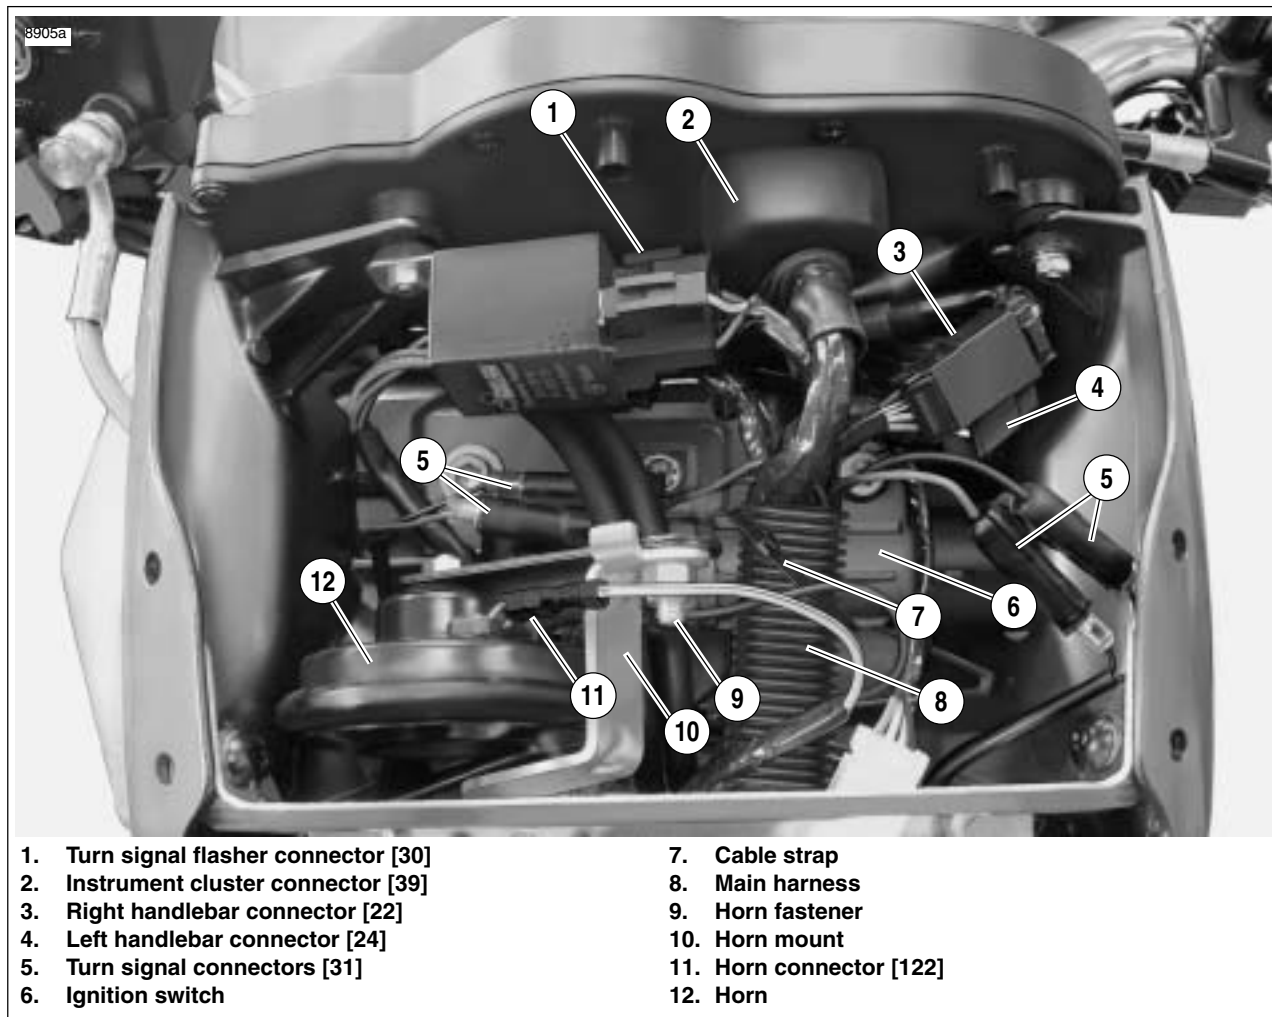

Figure 7-3. Electrical Connectors Behind Windscreen
4. See Figure 7-3. Disconnect:
5. Remove horn (12) from horn mount (10).
6. Cut cable strap (7) that loosely holds main wiring harness (8) to the ignition switch (6) and disconnect ignition switch connector [33].